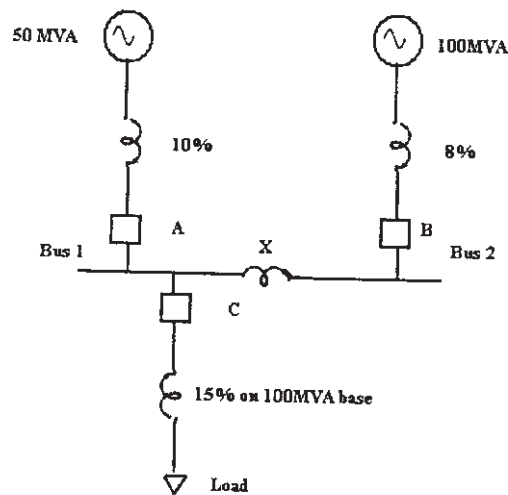

Figure 1
b) A 50 MVA generator with 10% reactance and 100MVA generator with 8% reactance (on their own base) are connected as shown in fig 1. The fault level on bus 1 is to be restricted to 1000MVA. Calculate on 100MVA base [10]